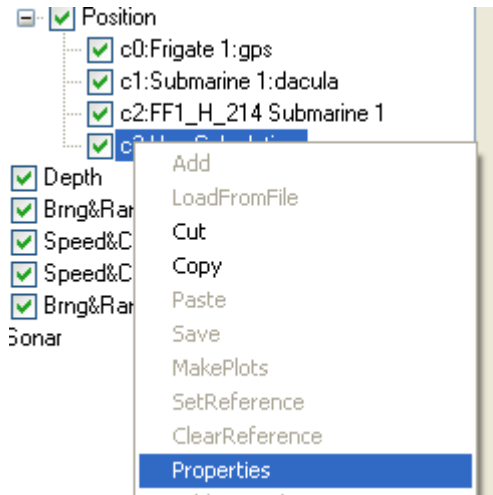

Figure A.5 Selecting Properties for user curve
2. Select the new curve and the function *Properties*, see Figure A.5. Locate the property *user code* (see Figure A.6) and input (valid) MATLAB code. The code must define a struct named with the curve id (e.g. 'c2') and with members t and y (for Y-T plot) and t, y and x for (YX-T plot). You may also rename the curve and change other properties.